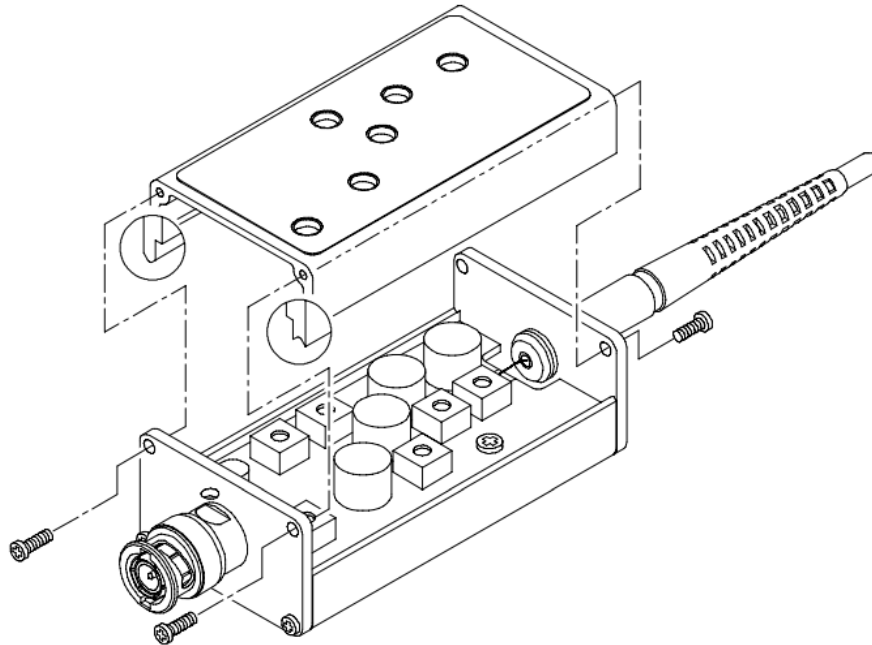

Figure 2- 1: Access to Long-Form Adjustments
Access to adjustments in this procedure requires removal of the top half of the compensation box (Figure 2–1). When reinstalling the top, note that the edges are asymmetrical and that the top will seat securely only when it is correctly oriented. This ensures that the adjustment holes are properly aligned with the circuit board.
7. The waveform amplitude should be between 4.85 and 5.15 divisions. If necessary, adjust R9 for five divisions. Use the trailing portion of the square wave if the leading corner is not flat. See Figure 2–2 for the location of this and other adjustments.
- Adjust R2 and C1 to flatten the area $200\ \mu\text{s}$ from the leading corner. Refer to Figure 2–3 to locate the zones affected by the adjustments in this and the following steps.
NOTE. Figure 2–3 shows an idealized waveform. The displayed waveform will include some ground lead ringing.